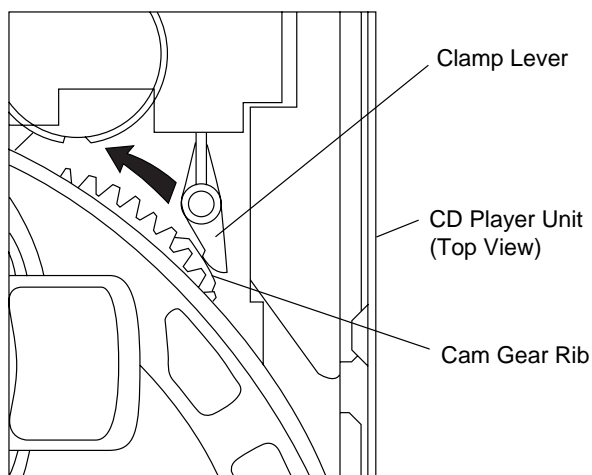

Figure 13-1
2. While holding the lock lever, rotate the cam gear anticlockwise until the cam gear rib engages with the clamp lever. (Fig. 13-1)